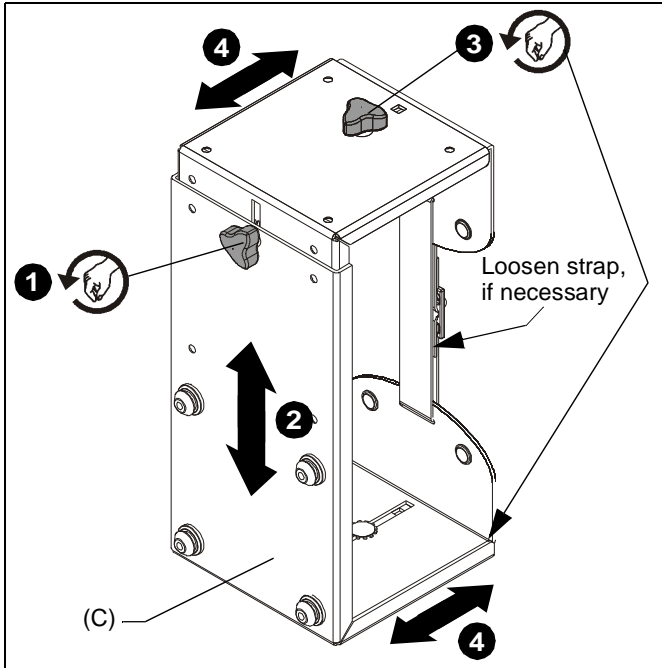

Figure 5
1. Loosen adjustment knob at the back of the CPU mount (C).
2. Adjust height of mount to a height greater than the height of the CPU to be installed. Loosen strap at the front of the CPU mount if necessary. (See Figure 5)
4. Slide flanges to allow insertion of the CPU. (See Figure 5)
**NOTE:** Top and bottom knobs may be removed and inserted into the front square holes to allow for large CPU installation. (See Figure 5)